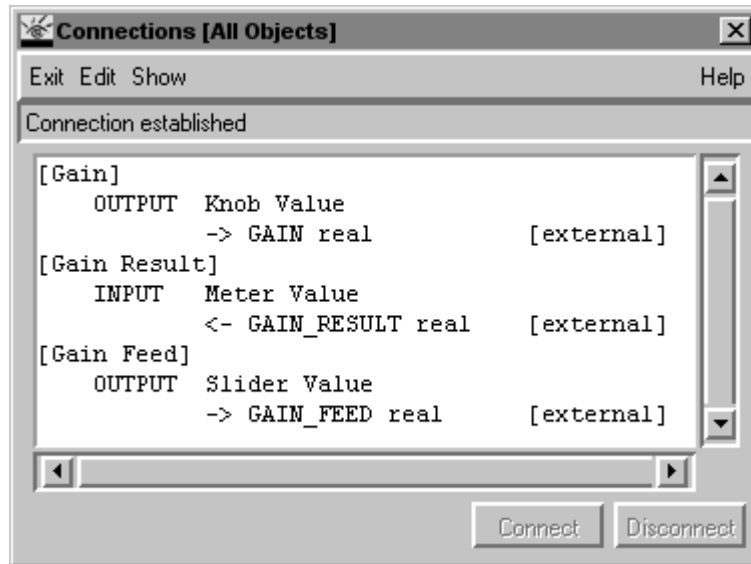

FIGURE 6-13 Connections of All Objects
- In the connection dialog that shows all of the objects, click on the signal labeled **OUTPUT Slider Value**, then click on the signal in the external connection dialog labeled **INPUT GAIN_FEED real**. When this is done the **Connect** button will become available. Press it to connect the slider to the StateMate variable **GAIN_FEED**. The connections dialogs should reflect the fact that the two objects are now connected (see Figure 6-13).